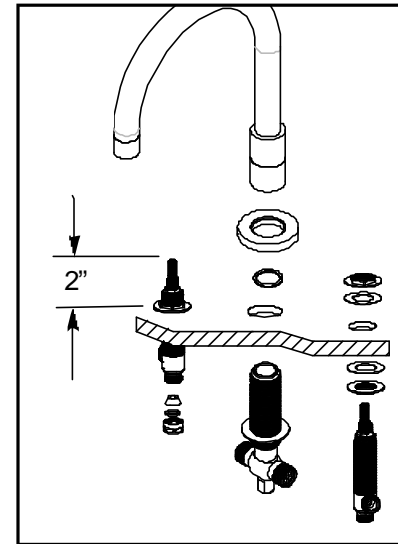
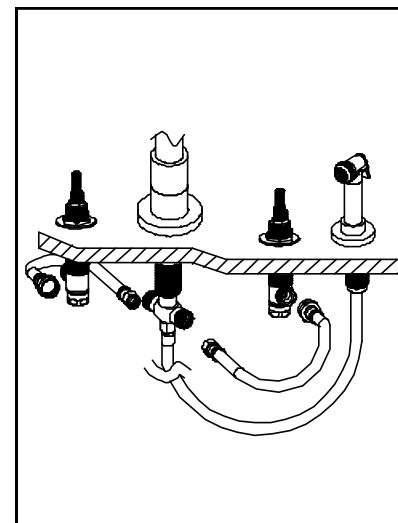

Figure 1
Figure 3
1. Place the spout shank through center hole of mounting surface and spout base ring with washer assembly. Thread shank into spout. Secure spout and spout base ring into place with flange nut. See Fig. 1
2. Place nut & washer on valve body. Insert body, (blue cold & red hot), through hole in the mounting surface. Adjust and secure with additional washer and nut so that the top of valve is 2" above top of mounting surface. See Fig. 1.
4. Connect a flexible hose to side outlet of each valve body. Attach other end of hoses to either side of the tee. (Hand-tighten and secure each connection with a wrench ¼ turn.) See Fig. 3
5. Attach hot/cold water supply hoses (not included) to appropriate valve, see Fig. 3, utilizing cone washers, friction rings and nuts supplied. See Fig. 1